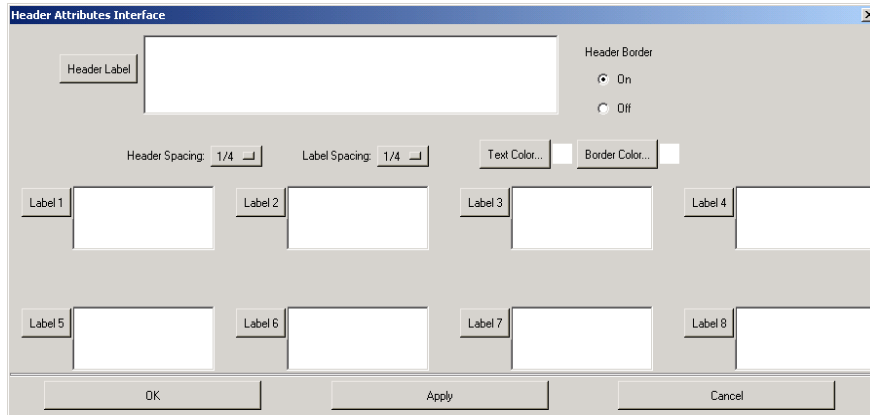

Figure 3-8 The Header Attributes Interface
Step 4 Double click anywhere inside the header box to bring up the **Header Attributes Interface**, shown in Figure 3-8. This dialog is used to specify the contents of the Header objects and to modify the appearance of the text (font, size, color, and so on).